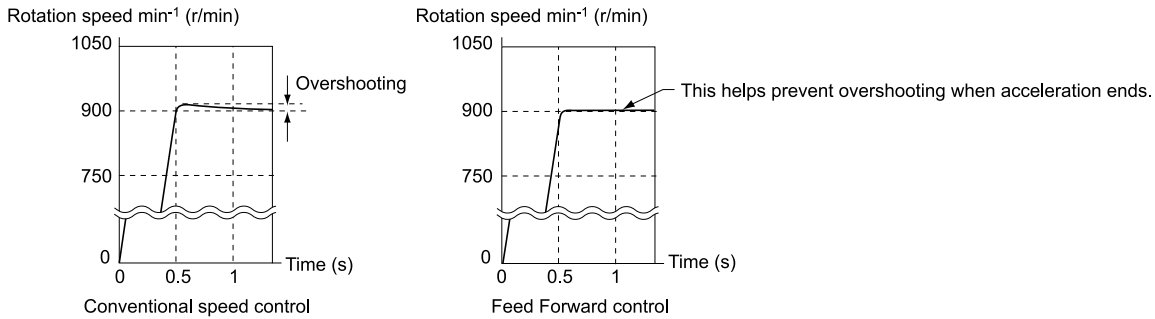
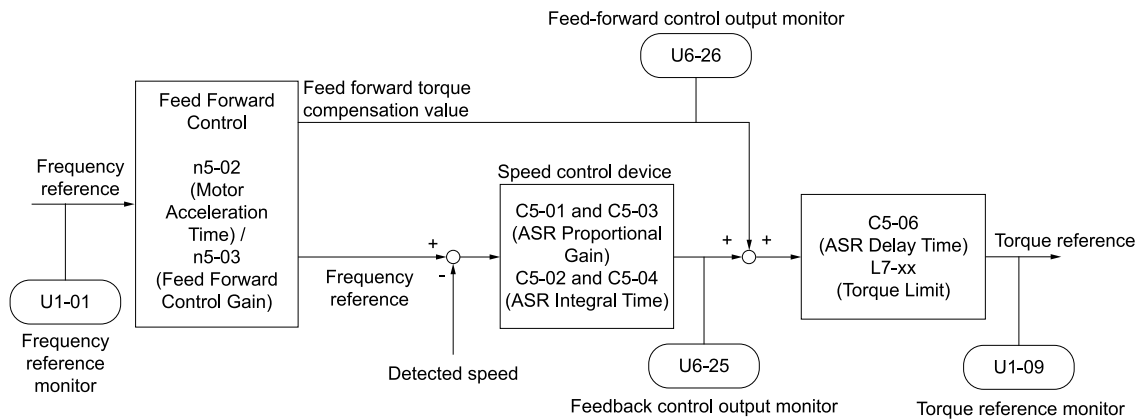

Figure 12.147 Suppress Overshooting with Feed Forward Control
Figure 12.148 Configure Feed Forward Control
Increase the values set in *C5-01* and *C5-03* [ASR Proportional Gain] to apply feed forward control to machines that have low rigidity and are possible to have hunting and vibration or to machines that have a large quantity of inertia. When you use this function in CLV control, it also helps prevent overshoot. Refer to Figure 12.147 for information. Refer to Figure 12.148 for more information about parameters related to feed forward control.
- If you cannot do Inertia Tuning, refer to Figure 12.148 and set the parameters related to feed forward control individually.